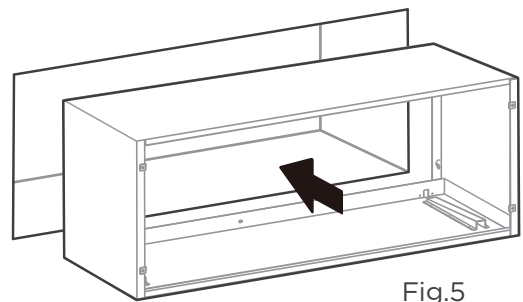

Fig.5
-Refer to the installation instruction of sleeve assembly for details. To avoid vibration and noise,make sure the wall sleeve is installed securely and firmly. (See Fig.5)